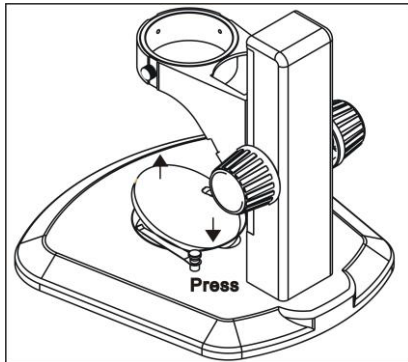

Fig 1
- (1) Usually, the white side is used up to objective. If the specimen is white or in bright color, please let black side up to make image more clearly.
- (2) To take off the stage, please press the supporting point (shows in Fig 1). (Fig 1)